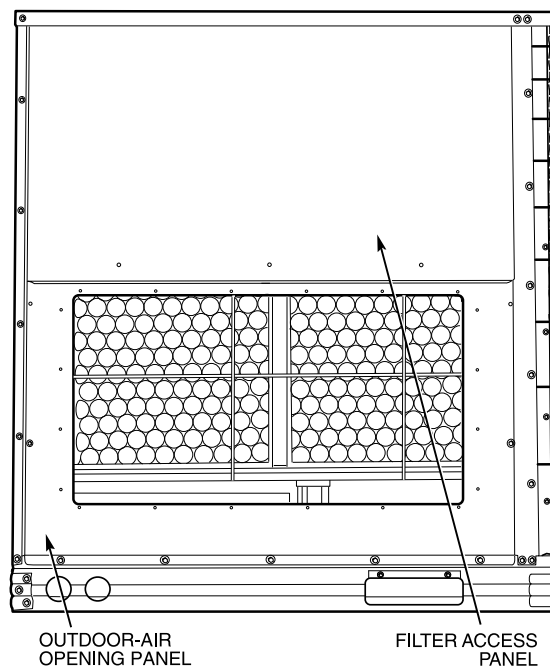

Fig. 11 — Panel Locations
2. Remove filter access panel by raising panel and swinging panel outward. Panel is now disengaged from track and can be removed. No tools are required to remove filter access panel. Remove outdoor-air opening panel. Save panels and screws. See Fig. 11. Remove optional outdoor-air damper hood package from filter section.
2. Remove filter access panel by raising panel and swinging panel outward. Panel is now disengaged from track and can be removed. No tools are required to remove filter access panel. Remove outdoor-air opening panel. See Fig. 11. Save panels and screws. Remove optional economizer so the outdoor-air damper hood package can be removed from the filter section.